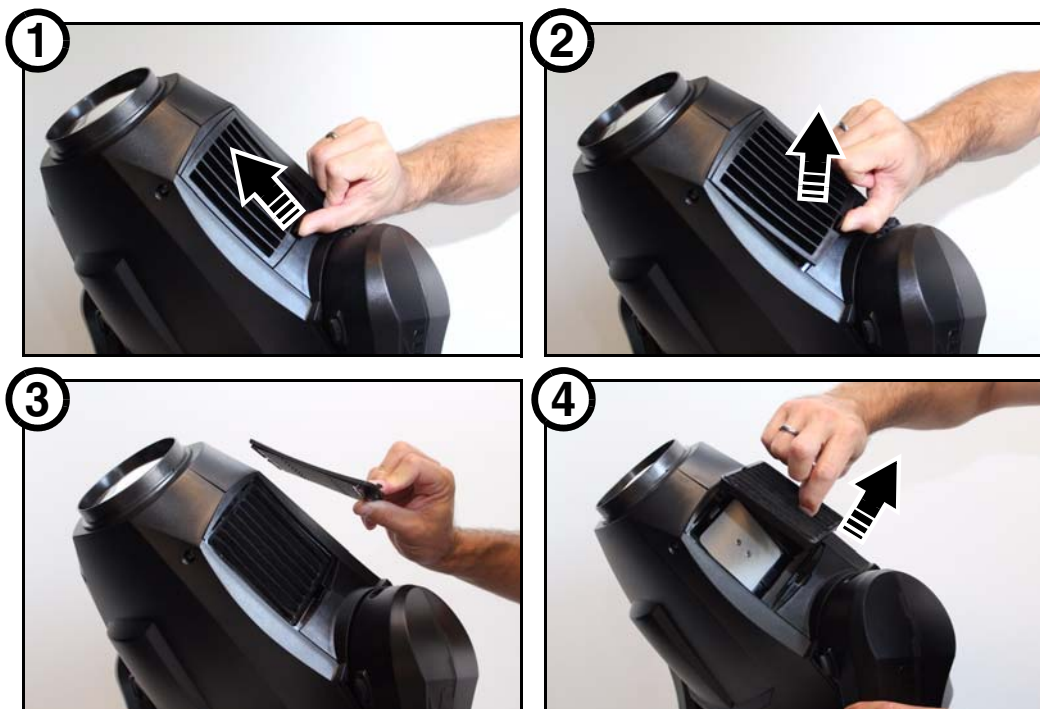

Figure 8: Releasing head air filter covers
3. See Figure 8. On both sides of the head, unclip the air filter covers and lift them off the head.